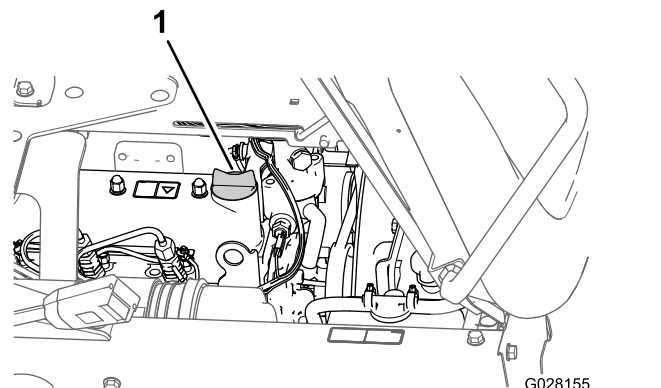

Figure 77
5. Remove the oil-filler cap from the filler neck of the valve cover of the engine and slowly pour approximately 80% of the specified amount of oil into the filler neck (Figure 77).
- Install the oil-filler cap into the filler neck (Figure 77).